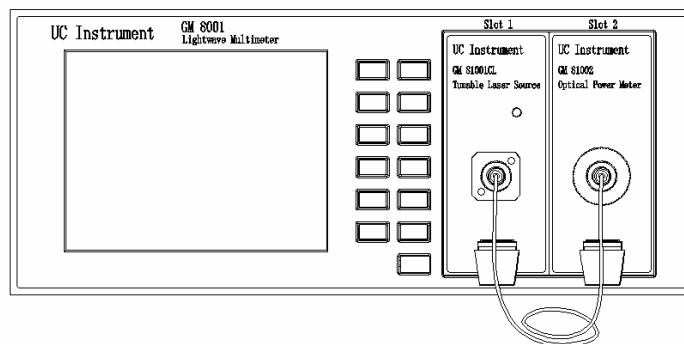

Figure 14 Mainframe with tunable laser source and power meter
1. Setup the test equipment as shown in Figure 14.